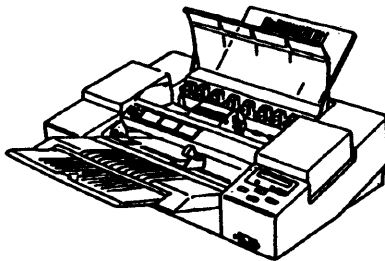

Figure 1
1. Move the carriage to the center of the printer in the same manner that the print head is replaced. (Figure 1)